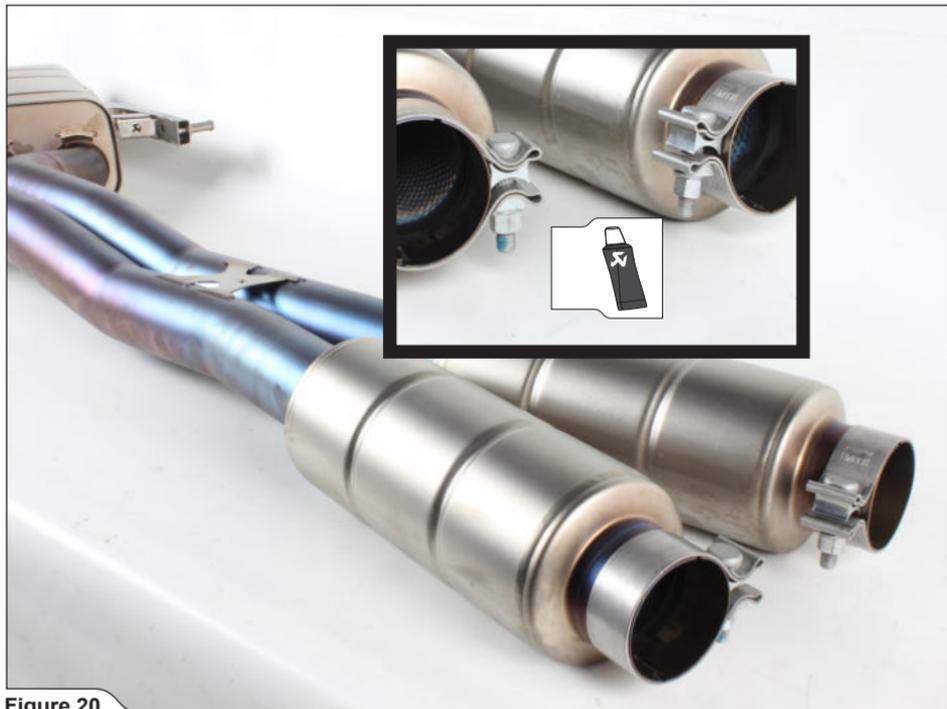

Figure 20
5. Correctly orient and attach the clamps (from Akrapovič installation kit) onto the collector's inlets, as shown (Figure 20).